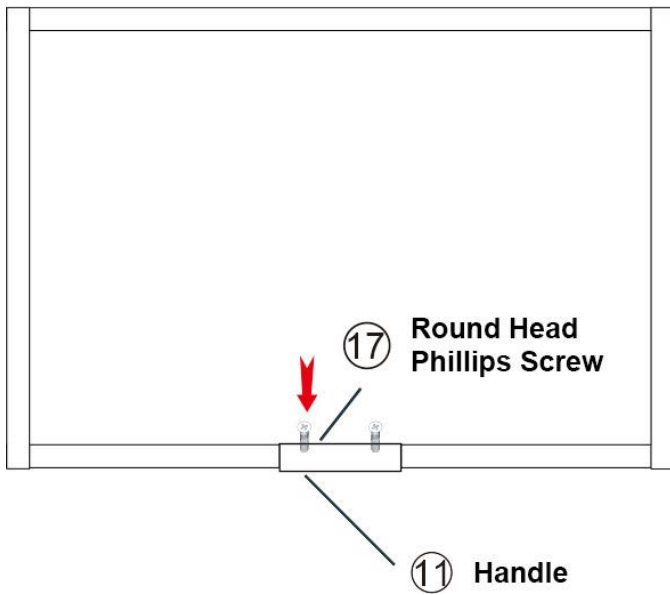

Figure 5
Step 5: Use round head Phillips screws to install the handle into the door frame, as shown in Figure 5;